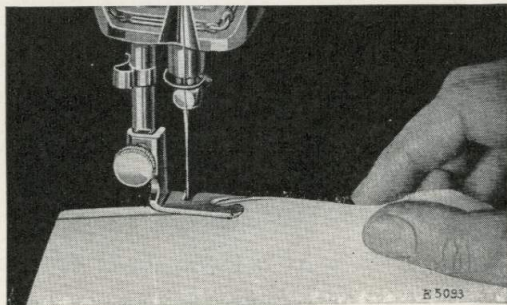

FIG. 47. STARTING A HEM AT THE EDGE
3. Draw the material toward you through the Hemmer, as shown in Fig. 47, at the same time